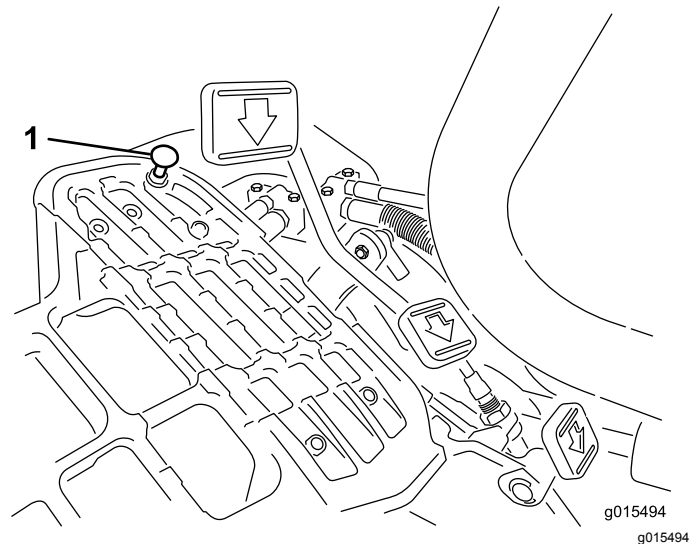

Figure 48
Press down on the traction pedal. If the pedal contacts the stop (Figure 48) before tension is felt on the cable, an adjustment is required:
1. Loosen flangehead locknuts securing the pedal stop to the floor plate (Figure 48).